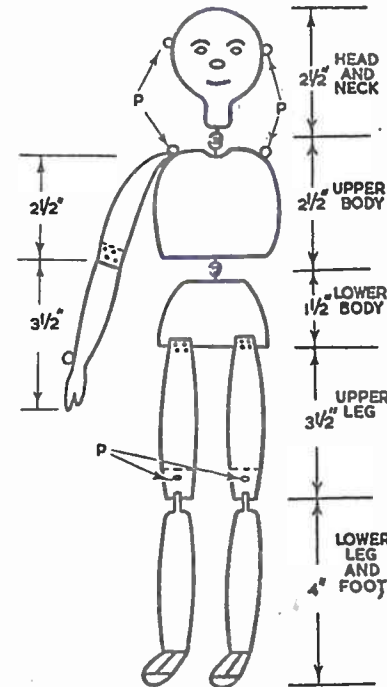

Fig. 1—A general view of the model
THE modern curved lines of this miniature cabinet are unusual for a woodworking project, yet by carefully building up the parts required, construction is kept very simple and straightforward. Start first by cutting the base from $\frac{1}{4}$ in. thick material, as detailed in Fig. 1, making sure that you work accurately to these dimensions.
Fig. 1 shows the undressed model, minus one arm, and the several distinct stages of construction are indicated.
Before clothing the marionette various control points must be positioned. For simple control there are nine of these. Eight are as indicated (P) on Fig. 1, i.e. one just above each ear, one on each shoulder, one on each wrist and one
With the clock standing upright, measure the distance between table and second's spindle, double this distance and cut a square of thin plywood to the size. In the centre of this bore a 1/4 in. hole through, and round off the sharp corner angles of the shape. Take the clock in hand, remove the glass, hour and minute hands, dial and second's hand, then fix the clock to the plywood square with metal angle brackets, the spindle of the second's hand being in the centre of the wood, instead of the hour hand, as indicated by the line (a—b) in Fig. 1.